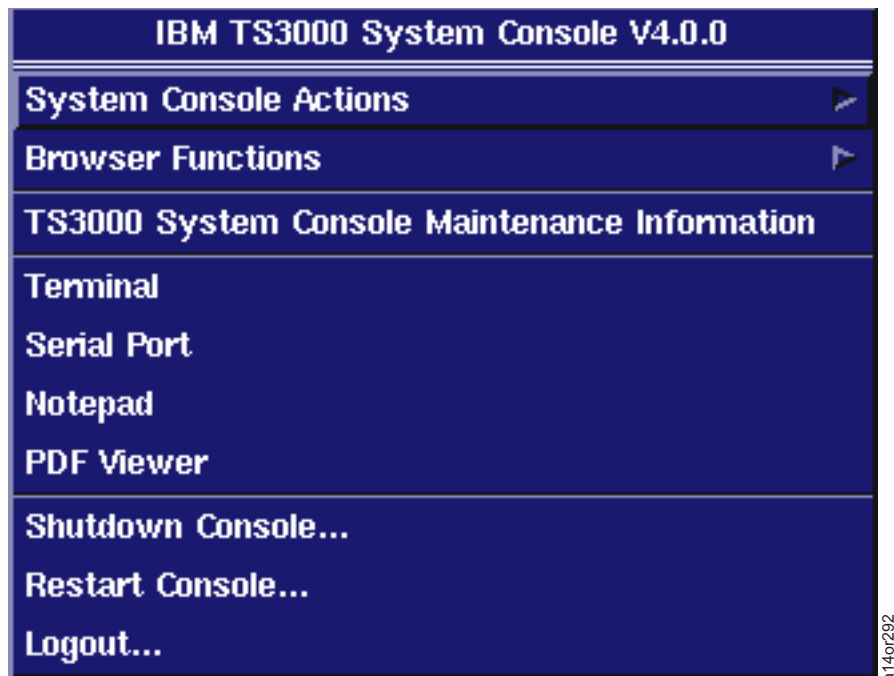

Figure 120. Serial Port Selection on TSSC Screen
1. After logging in to the TSSC, from the TSSC desktop, right-click on the desktop to see Figure 120 on page 102.